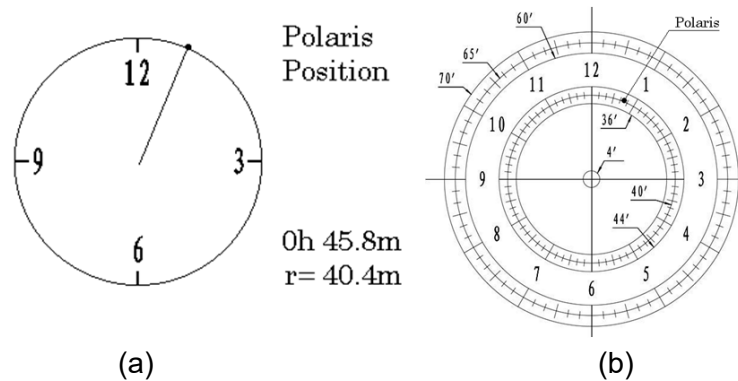

Figure 27. Polaris Position shown on HC (a) and where to put on polar scope reticle (b)
- (5) Look through the polar scope to find the Polaris. Use the Azimuth and Latitude Adjustment Knobs to adjust the mount in both directions and put the Polaris in the same position on the Polar Scope reticle as indicated on the HC display screen. In this case, Polaris will be located at a radius of 41.5 minutes and an angle of 1 hour 26.8 minutes, as shown in Figure 27 (b).